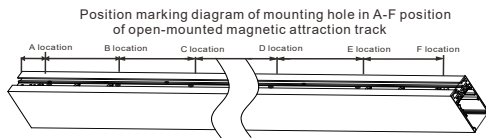

figure8.1
1. Before the installation of the open-mounted magnetic absorption track, please refer to the location map of the mounting hole of the fixed buckle of the open-mounted track and the table of the size spacing of the hole, and then to the location and installation of the mounting area; (Figure 8.1/ Table 8.1)